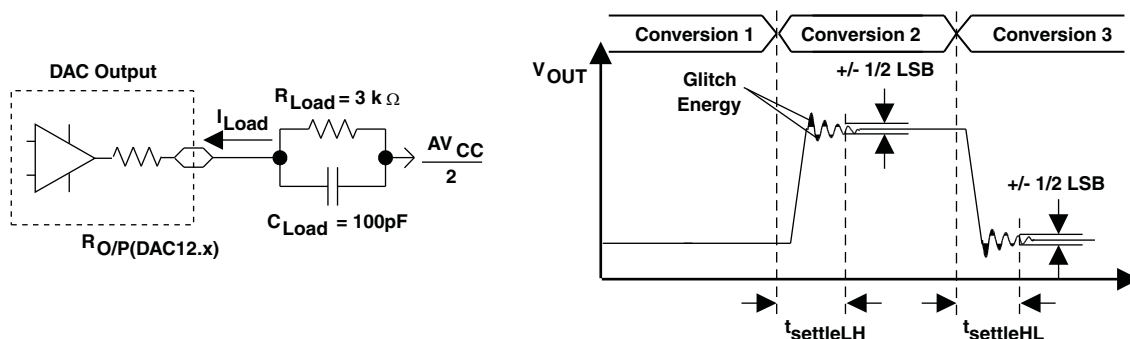

Figure 48. Settling Time and Glitch Energy Testing
(1) R_{Load} and C_{Load} are connected to AV_{SS} (not $AV_{CC}/2$) in Figure 48.
(2) Slew rate applies to output voltage steps ≥ 200 mV.